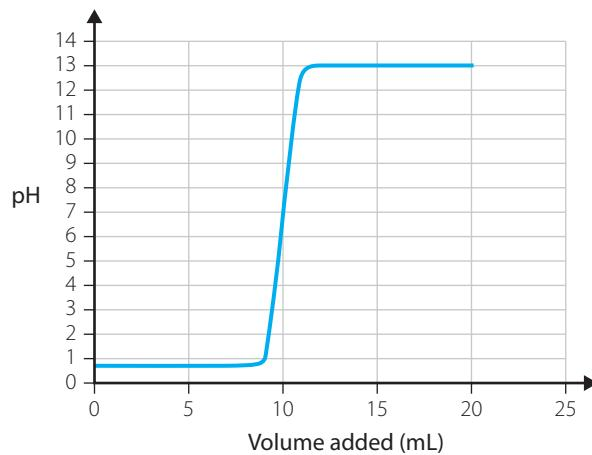

FIGURE 7.16 An acid-base titration
- 10 A student conducted a titration using 0.060 mol L^{-1} solutions of both the acid and the base. The results were collected using a pH probe, then graphed. The data is shown on Figure 7.16.